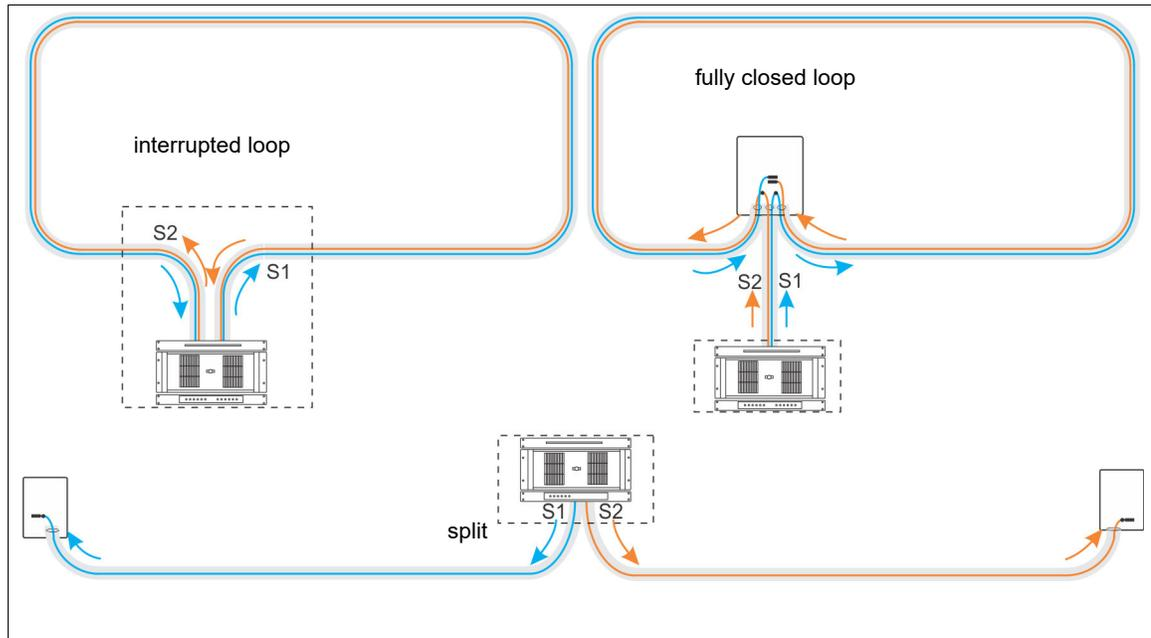

Figure 86 FiberPatrol sensor cable configurations
Figure 86 illustrates the most common FiberPatrol sensor cable configurations. Refer to FiberPatrol configurations on page 19 for additional sensor cable configurations and installation details.
- For Loop configurations, Sensor 1 and Sensor 2 run in opposite directions around the perimeter, and back to the start point (see Figure 86). There are two types of Loop configurations: